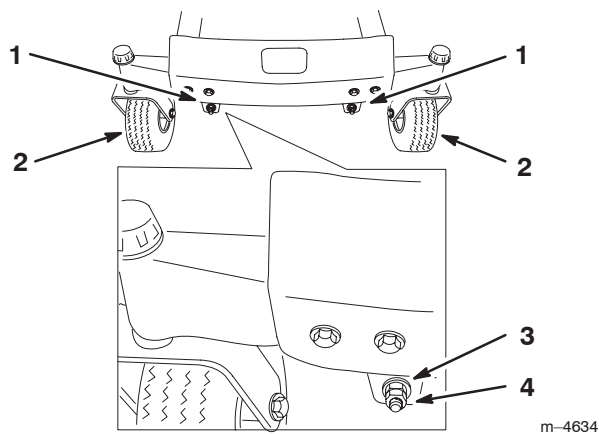
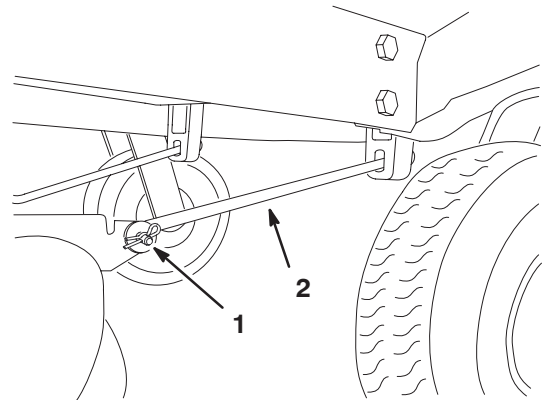

Figure 41
Figure 43
- To adjust the front-to-rear blade slope, remove the locknuts and then rotate the adjustment nuts in the front of the mower (Fig. 41).
- After adjusting both adjustment nuts evenly, check the front-to-rear slope again. Continue adjusting the nuts until the front blade tip is $1/16$ – $5/16$ inch (1.6–7.9 mm) lower than the rear blade tip (Fig. 41).
Note: After adjusting the adjustment nuts, make sure there is **no slack** in either support rod (Fig. 43). Tighten either one to remove the slack (Fig. 41).
4. Remove the hairpin cotter and clevis pin from the front support rod on each side of the mower.(Fig. 43).
7. Attach the front support rods to the machine with the clevis pins and hairpin cotters (Fig. 43).